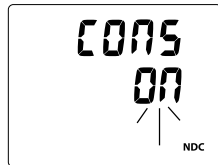

Fig. 35 - SET CONSERVATIVE FACTOR
**SET CONSERVATIVE FACTOR**, information includes (Fig. 35):